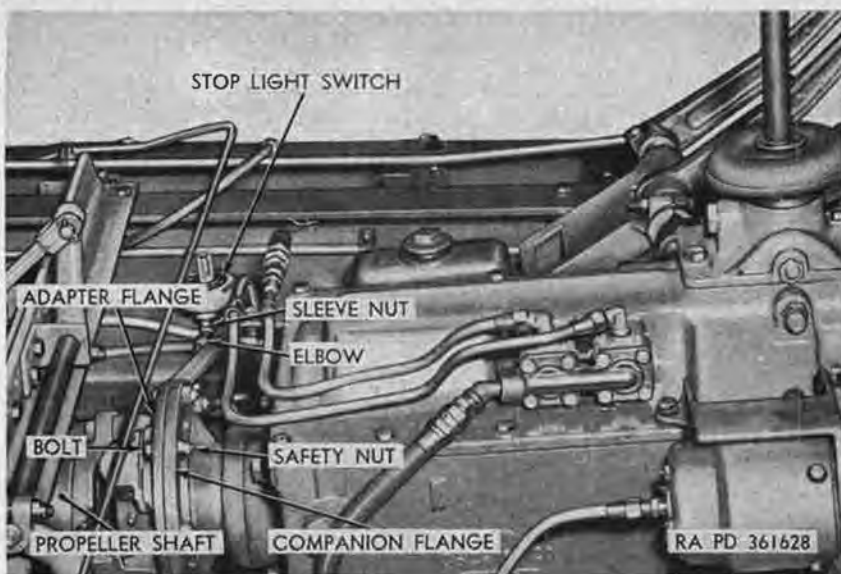
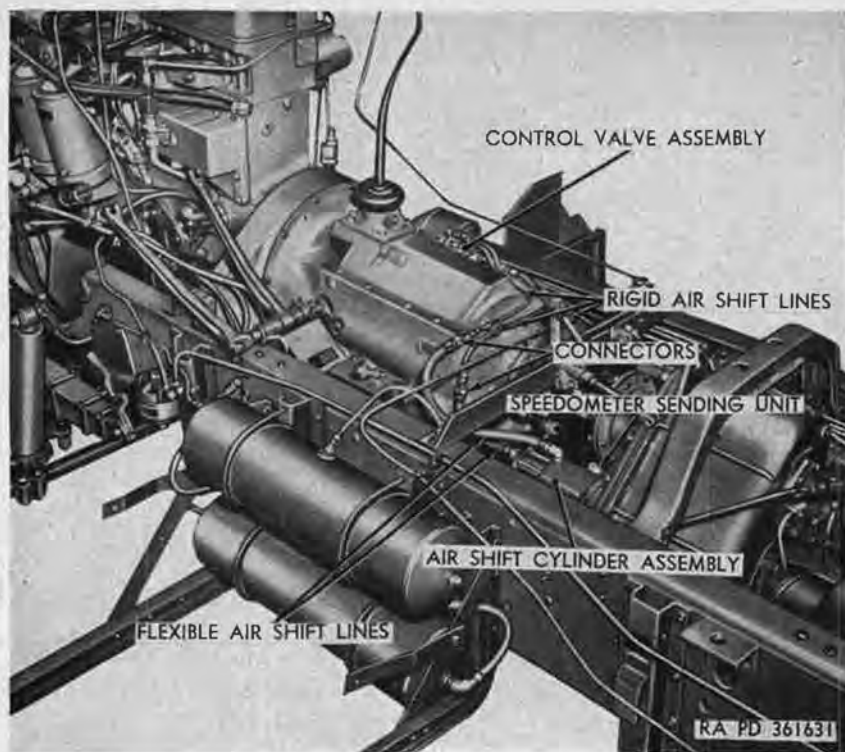

Figure 141. View of right rear section of transmission and transmission-to-transfer propeller shaft.
Figure 144. Top view of rear section of power plant (installed) from left side of vehicle.
- (1) *Remove power-take-off.* Refer to paragraph 209d (M51 only) or paragraph 209b (vehicles equipped with front winch only).
- (2) *Disconnect transmission-to-transfer propeller shaft* (fig. 141). Remove eight safety nuts and bolts securing universal
- (4) *Disconnect transmission-to-transfer air shift lines* (fig. 144). Unscrew connectors at junction of rigid and flexible air shift lines and disconnect transmission-to-transfer air shift lines.
- (1) *Connect transmission-to-transfer propeller shaft.* Position universal joint journal adapter flange (fig. 141) against companion flange at rear of transmission, aline mounting bolt holes in flange and adapter, and insert eight bolts in holes. Install eight safety nuts on bolts and tighten.
- (2) *Install power-take-off.* Refer to paragraph 209e (M51 only) or paragraph 209c (vehicles equipped with front winch only).
- (3) *Connect transmission-to-transfer air shift lines.* Connect flexible air shift lines (fig. 144) attached to left front of transfer case to rigid air shift lines at top rear of transmission. Tighten connectors.